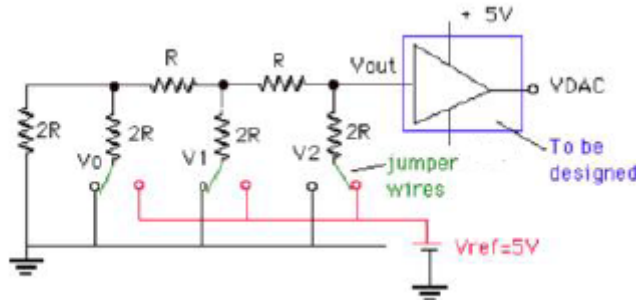

Figure 1: R-2R ladder DAC converter
1. You will build the R-2R ladder DAC of Figure 4a (refer to previous lab assignment) including the OpAmp interface circuit you have designed. To implement the voltages  $V_i = (b_i) \times (V_{REF})$ ;  $b_i$  corresponds to bit values as shown in Table I (refer to previous lab assignment)  $V_i$  corresponds to voltages  $V_0, V_1, \dots$  in Fig 1. use jumper wires to the 5V or Ground busses as is schematically shown in Figure 1.